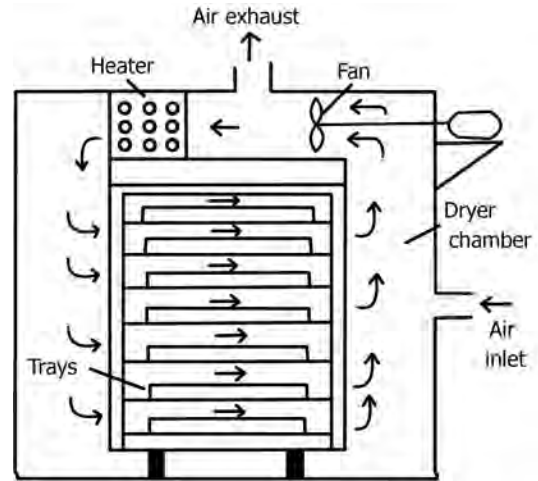

FIGURE 18.27 Tray dryer.
- Figure 18.27 illustrates working of a tray dryer.